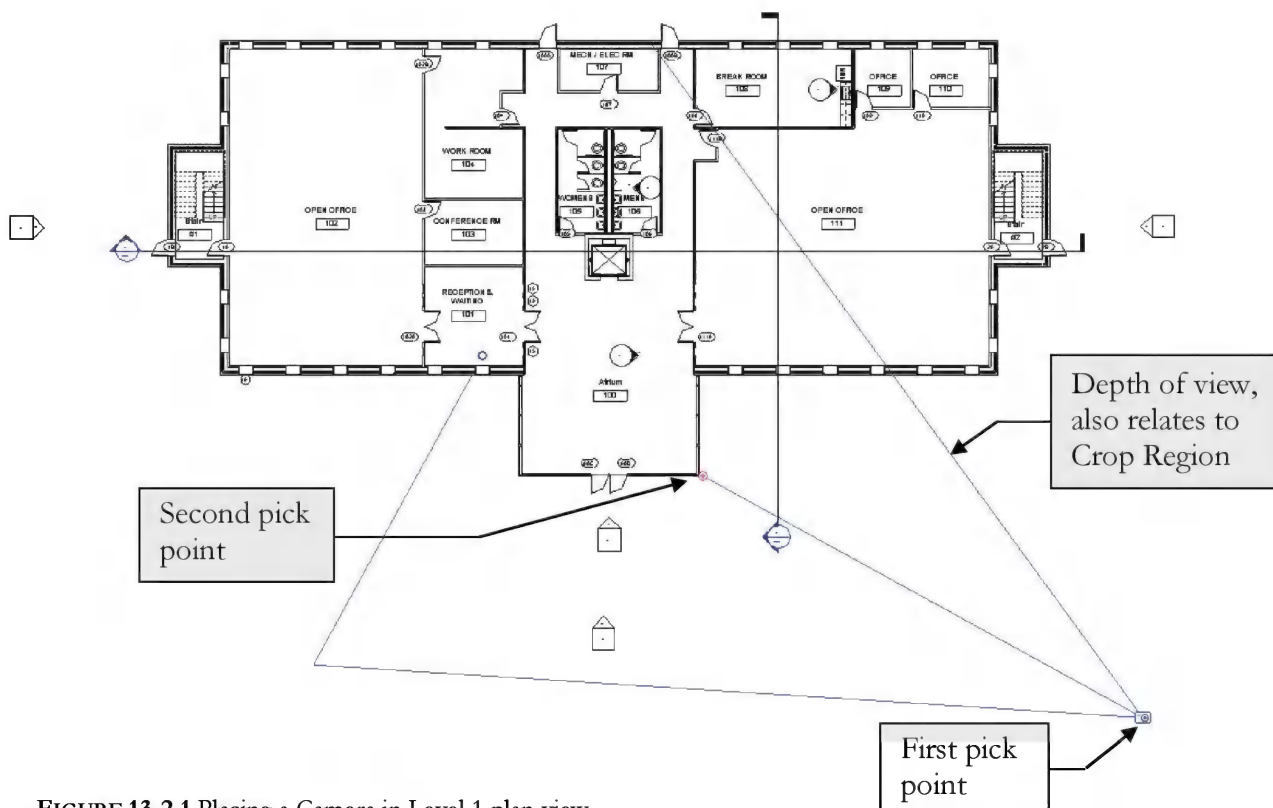

FIGURE 13-2.1 Placing a Camera in Level 1 plan view
5. Next click near the atrium curtain wall; see Figure 13-2.1.